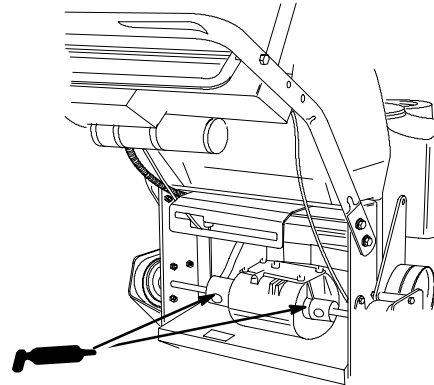

Figure 33
1. Lubricate the transmission couplers located in the back of the machine (Fig. 33).